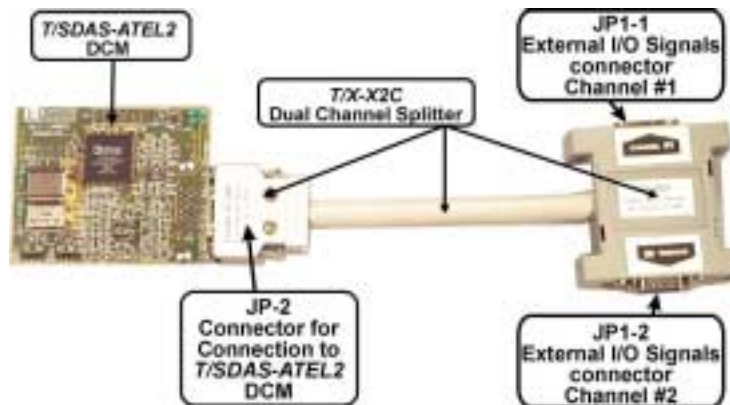

Fig. B-1. *T/SDAS-ATEL2* module with *T/X-X2C* dual-channel splitter.
*T/X-X2C* external dual-channel splitter (fig.B-1) converts on-board dual-channel JP2 external I/O connector of *T/SDAS-ATEL2* DCM into two single-channel external I/O connectors, which are compatible with that for *T/SDAS-SCOM1* DCM and which allow connection to external telephone line/station interface options and to single-channel audio/speech equipment.